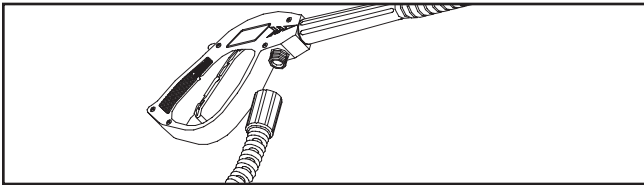

Figure 4: Connect high pressure hose to spray gun
1. Uncoil high pressure hose and attach one end of hose to base of spray gun (Figure 4). Tighten by hand.